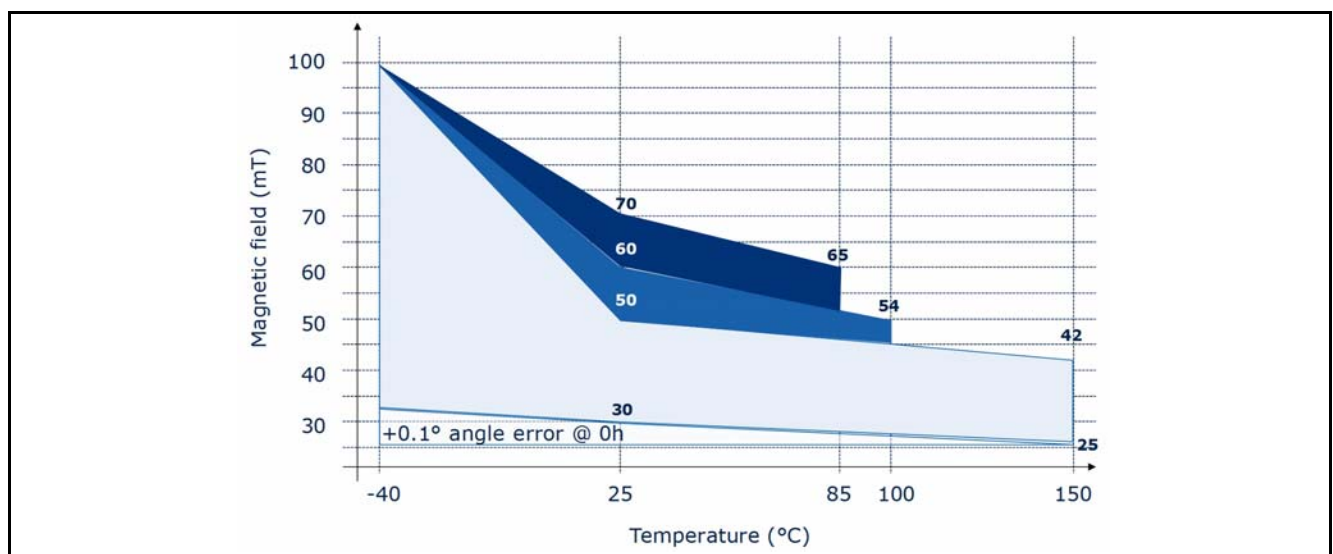

Figure 7 Magnet performance (ambient temperature)
- 5) See **Figure 7**
The field strength of a magnet can be selected within the colored area in **Figure 7**. By limitation of the junction temperature, a higher magnetic field can be applied. In case of a maximum temperature $T_J = 100^{\circ}\text{C}$ a magnet with up to 60mT at $T_A = 25^{\circ}\text{C}$ is allowed.